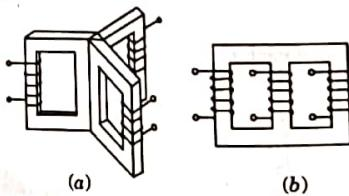

Fig. 5.6.1. Development of a 3φ core-type transformer :
1. A 3φ core-type transformer is constructed by combining three single-phase core-type transformers positioned at 120° to each other as shown in Fig. 5.6.1(a).
3. Usually the structure of Fig. 5.6.1(b) with the three limbs in the same plane is used.